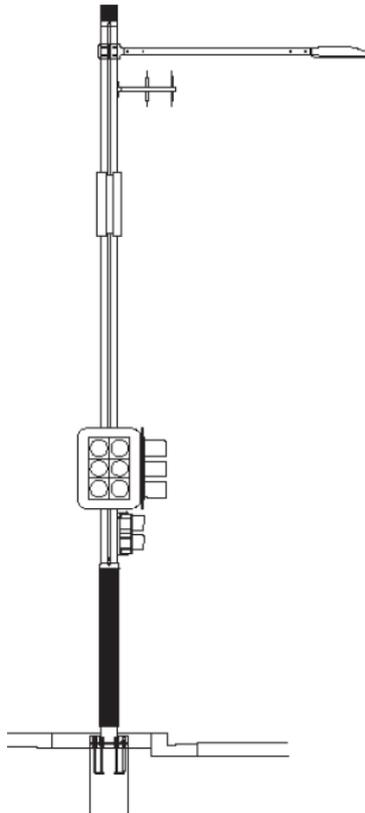

Figure 3.3.2 Multi-Function Light Pole
- d. Provide lighting of public domain areas, including installation of multi-function light poles in the road reserve along the Victoria Road frontage accordance with Figure 3.3.2 to the satisfaction of the Local Road Authority.